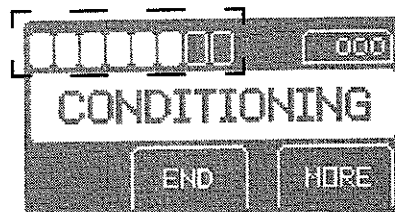

Figure 12 Conditioning Message and Bar Movement Right to Left
2. From the CONDITION? message screen, press the OK button to initiate battery pack conditioning. The CONDITIONING message will appear (see figure 12). If conditioning must be stopped for any reason, press the END button.